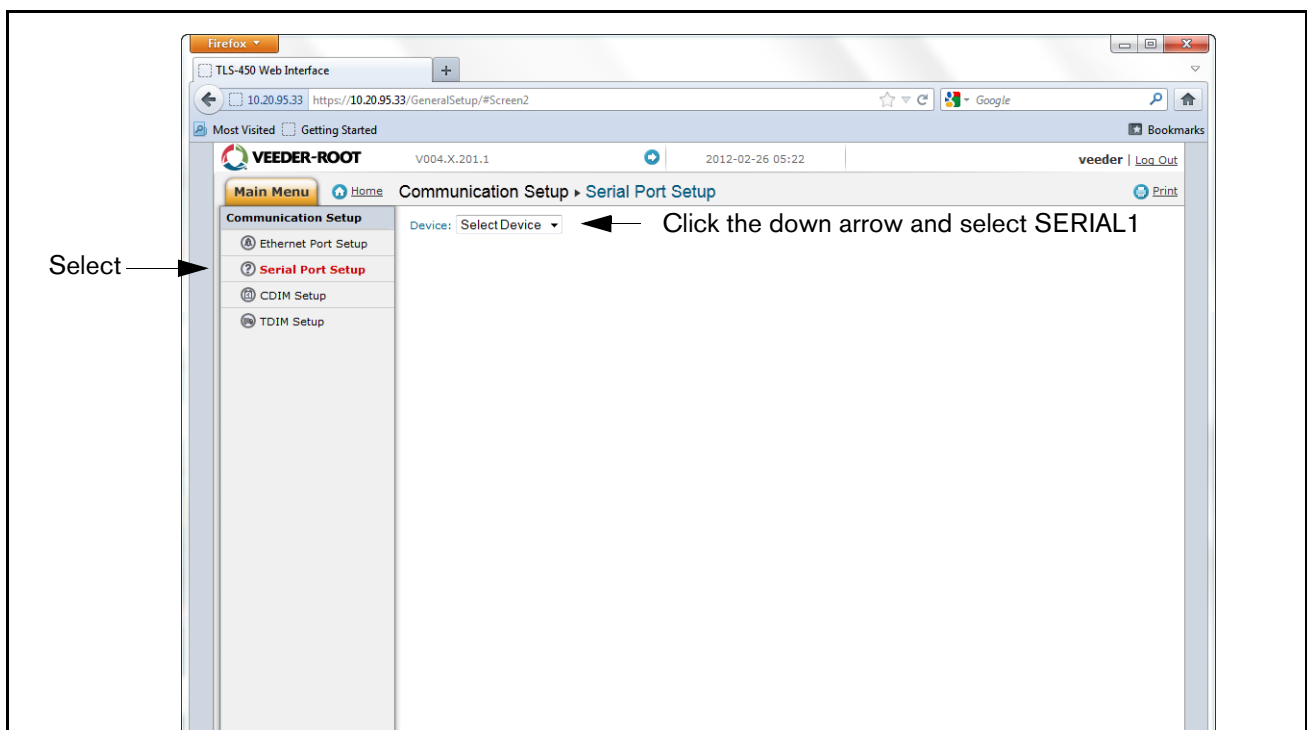
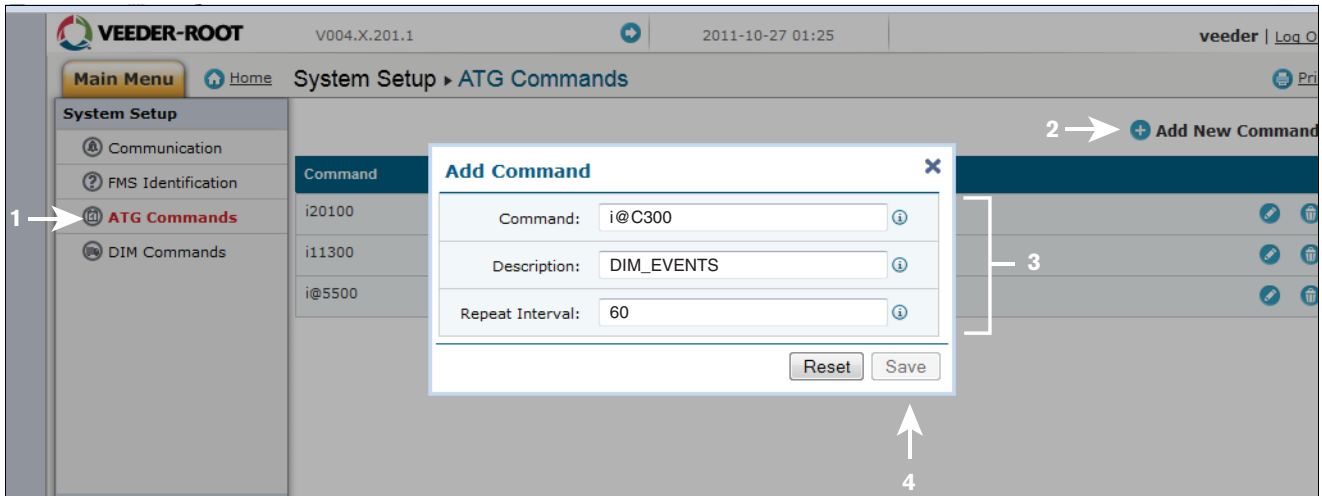

Figure 10. Switching between Data Logger Applications
Figure 13. Entering ATG Command
8. On the “Communication Setup” page, select “Serial Port” setup and for “Device” select “SERIAL 1” (see Figure 10).
Go to the "DLSetup" application by clicking on white arrow in blue circle top center of screen (see Figure 10), and under "System Setup", click on "ATG Commands (1 in Figure 13)". Then click on the "+ Add New Command" text at top right of screen (2 in figure). When the Add Command dialog box appears enter the command "i@C300", add the Description "DIM\_EVENTS", set the Repeat Interval to "60" (3 in figure) and click Save (4 in figure).